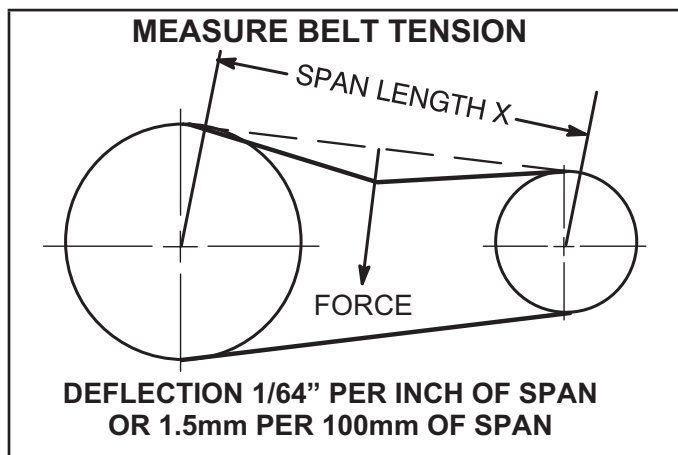

FIGURE 14
- 1 - Measure span length X. See FIGURE 14.
- 2 - Apply perpendicular force to center of span (X) with enough pressure to deflect belt $1/64$ " for every inch of span length or 1.5mm per 100mm of span length.